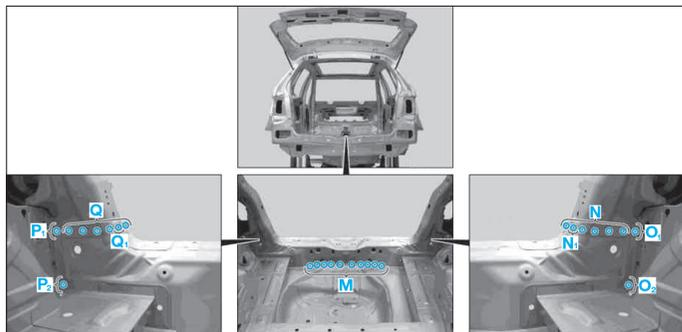

FIG. 115
- Fraiser les points de soudure (M), (N), (N₁), (O₁), (O₂), (P₁), (P₂), (Q) et (Q₁) (Fig.115).